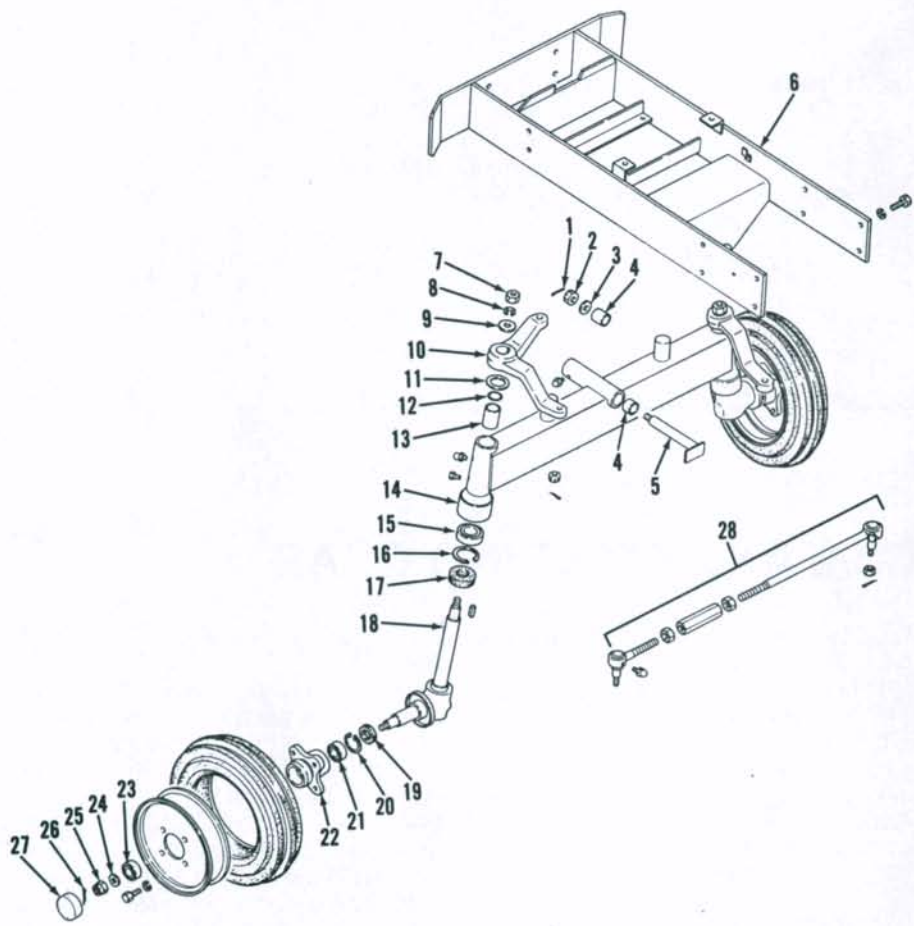
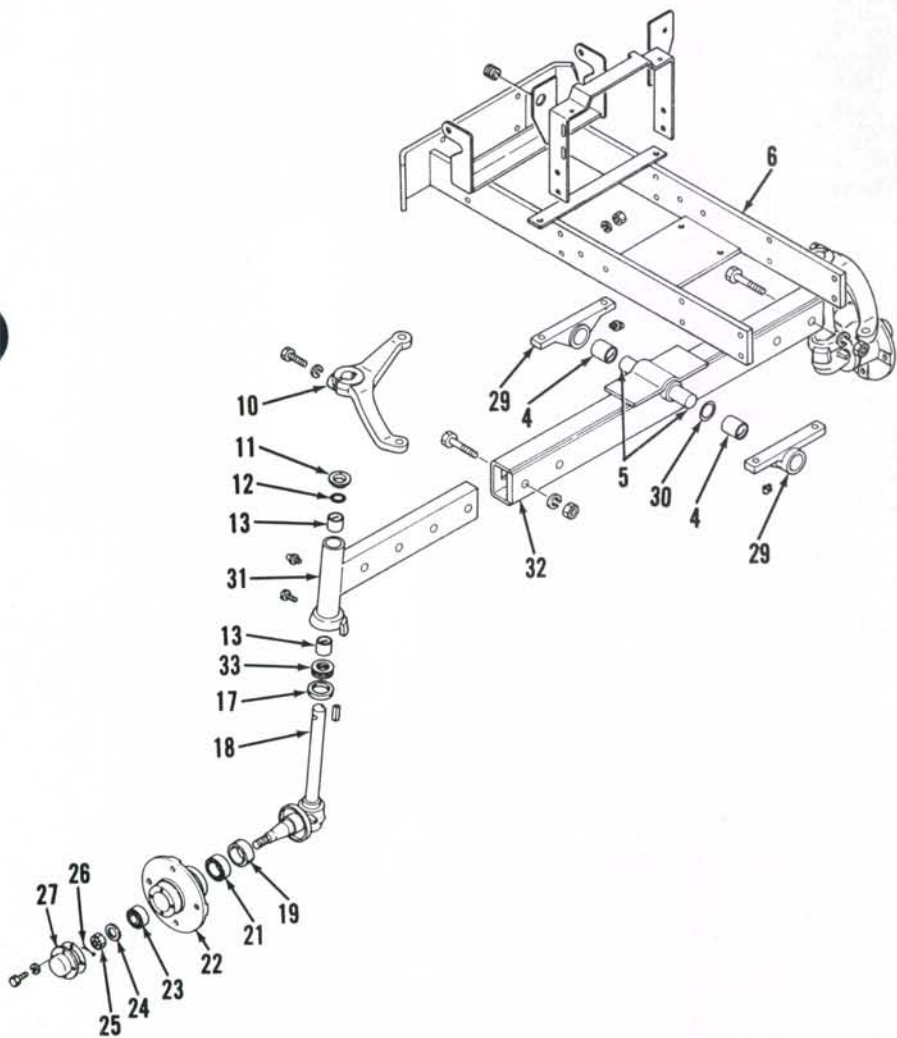

Fig. 1 - Exploded view of non-adjustable front axle used on YM155 models. Axle used on YM135 is similar.
Fig. 2A—Exploded view of adjustable axle available for YM195 and YM240 models. Except for adjustable width feature, heavy duty non-adjustable axle is similar.
1. **ADJUSTMENT.** Refer to appropriate Fig. 1, 2, 2A or 3 for exploded view of fixed or adjustable tread non-driving axle. Toe-in should be 4-8 mm (5/32-5/16 in.) for all models. Length of drag link should be adjusted to provide equally sharp turns in both directions.
Front axle should not have excessive front to rear clearance at pivot shaft (5). Excessive clearance can be removed from YM195 and YM240 models by relocating brackets (29-Fig. 2) closer together. Be sure all attaching screws are retightened after adjustment is complete. On all other models, adjust axle play at pivot by tightening the castle nut (2-Fig. 1 or 3) on pivot shaft. Be sure to
2. **REMOVE AND REINSTALL.** Support front of tractor and disconnect drag link from steering arm. On YM135 and YM155 models, remove cotter pin and castle nut (2-Fig. 1) from axle pivot shaft, support axle with jack, then remove washer (3) and pivot shaft (5). On YM195 and YM240 models, support axle with jack, unbolt pivot brackets (29-Fig. 2 or 2A) from frame, then
When assembling YM135 model, castle nut (2-Fig. 1) should be toward rear. On YM155 model, castle nut is toward front. Bushings (4) are 25 mm (0.984 in.) long for YM135 models; 24 mm (0.945 in.) long for YM155 models. Tighten castle nut (2) on YM135 and YM155 models enough to remove all axle play; however, axle should move smoothly and freely on pivot.
3. **OVERHAUL.** The steering spindle (18-Fig. 1, 2, 2A and 3) is equipped with renewable bushings (13) and some
models are equipped with bearings (15 and 33). Inside diameter of bushings (13) should be sufficient to provide correct clearance for the spindle. Adjust spindle end play by adding covers (11 - Fig. 1, 2 or 2A) or shims (40 - Fig. 3) as required.
Fig. 2 - Exploded view of standard non-adjustable front axle used on some YM195 and YM240 models. Refer to Fig. 1 for wheel hub and bearings. Refer to Fig. 2A for optional adjustable axle and heavy duty axle.